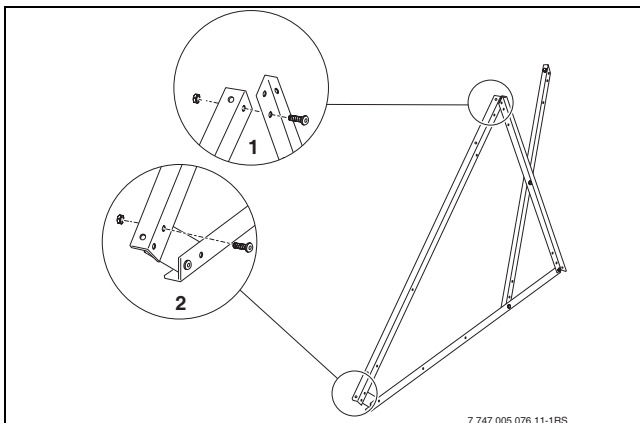

Fig. 11 Fitting the collector support rail
- ▶ Secure the collector support rails at the top to the cylinder support rail (Fig. 11, [1]), and at the bottom to the support [2].